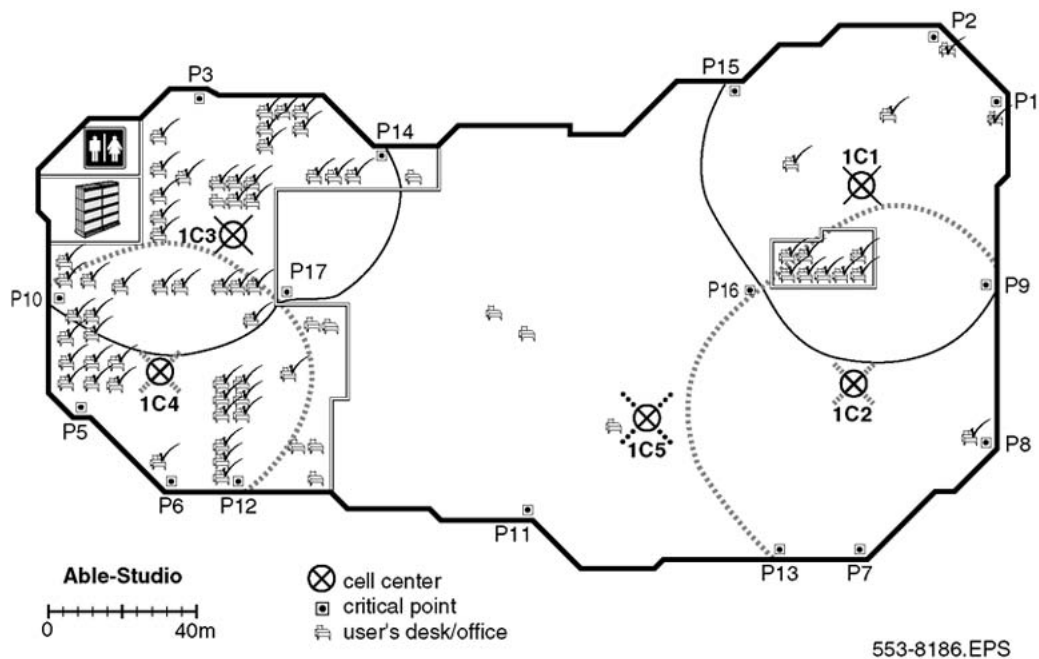

Figure 27: Cell center 1C5 formed by critical points P11, P13, and P16
- the cell center 1C5 in Figure 27: Cell center 1C5 formed by critical points P11, P13, and P16 on page 56